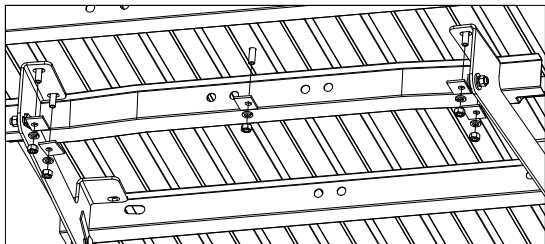

Figure D2: View under bed from rear of truck. (Frame not shown.)
- 2. Install hardware on rear mounting rail.** Under the bed install an offset square washer, 1/2" lock washer, and 1/2" finish nut on each of the carriage bolts, see Figure D2. Place the U-shaped spacers, see notice below "INSTALL REAR MOUNTING RAIL". Hand tighten each nut.